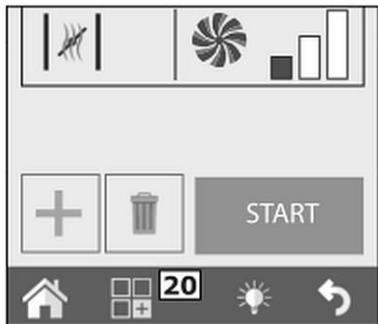

Fig. 24
5. In 'Functions' menu (20, Fig. 24), select 'Save', and then 'Copy'.
1. If you want to move a thermal processing program from one group to another, open the selected thermal processing program and press 'Functions' key (20, Fig. 24).
Open the thermal processing program and press 'Functions' key (20, Fig. 24), select 'Save' and then 'Rename' (Fig. 25). Type in the new name and press Enter.
1. Open the thermal processing program for removing and press 'Functions' key (20, Fig. 24), select 'Save' and then 'Remove' (Fig. 25).